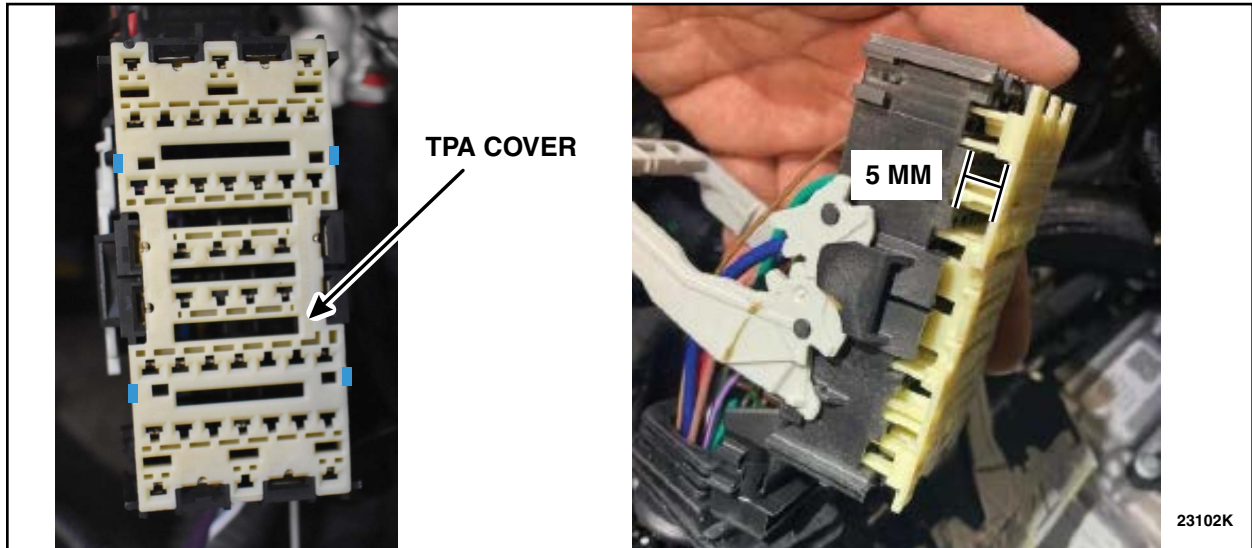

FIGURE 9
11. Position the Terminal Position Assurance (TPA) Cover to the first hard stop, approximately 5mm length. See Figure 9.